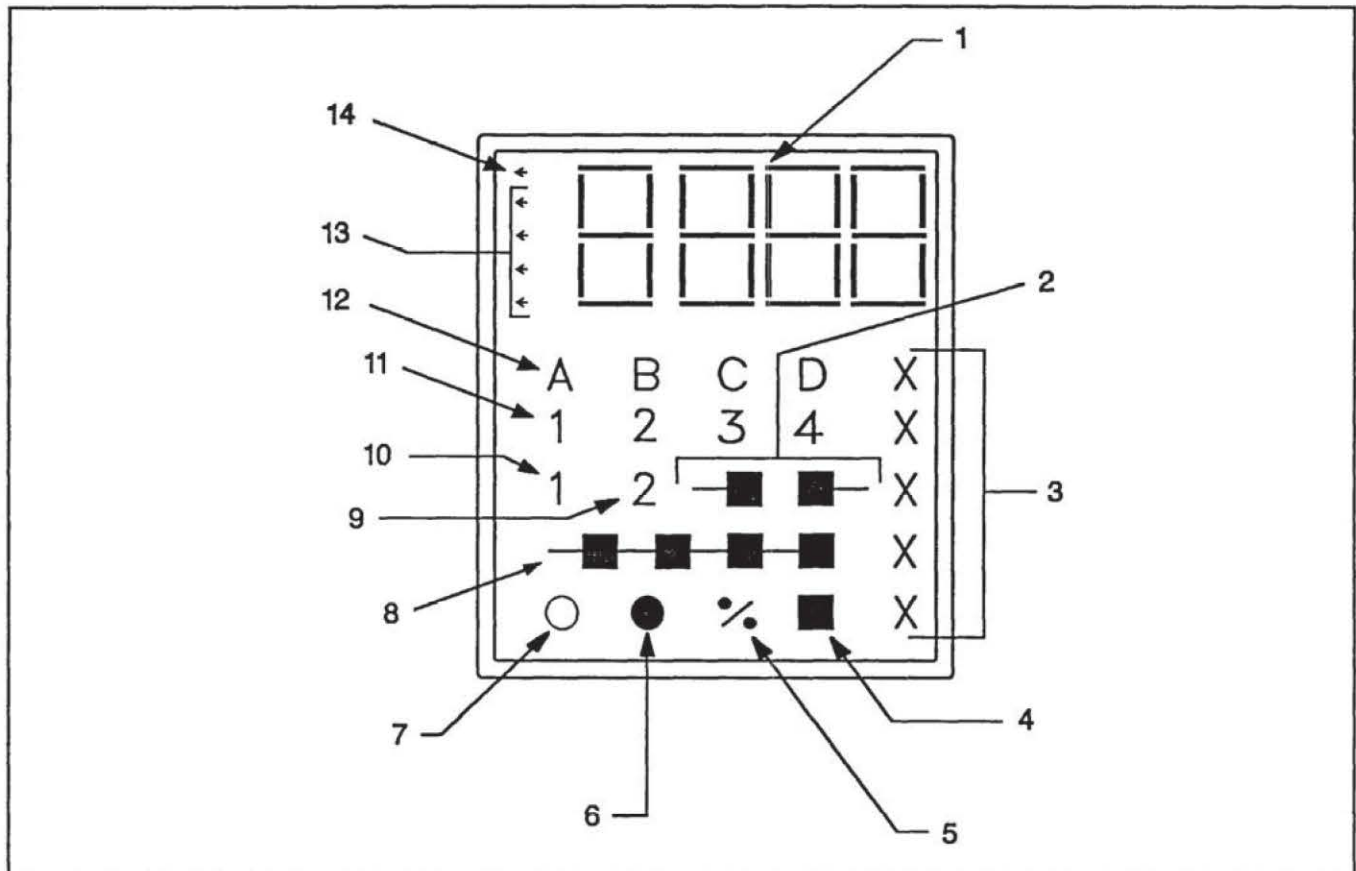

Figure 2.4 - PC40 LCD
Blue alphanumeric characters are displayed against a gray background (Figure 2.4).
**NOTE:** Figure 2.4 is for familiarization only; these symbols are never all displayed at the same time.